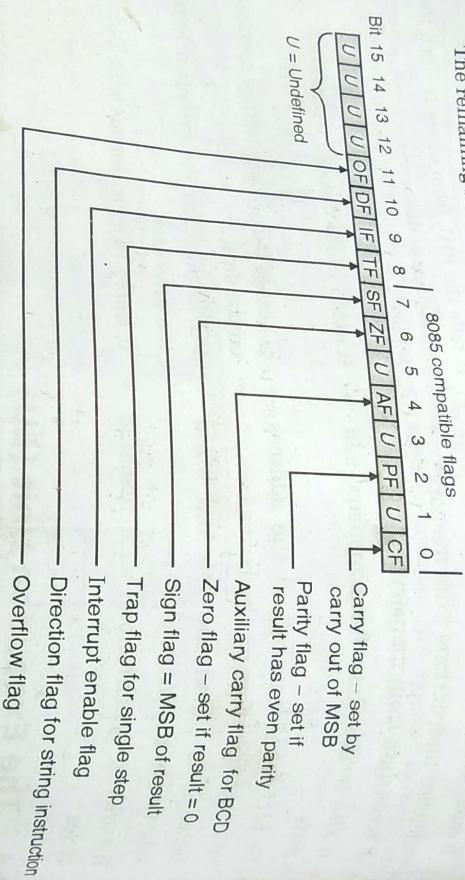

Fig. 11.4.1 : 8086 flag register format
Q. As shown in Fig. 11.4.1, the execution unit (EU) has four general purpose 16-bit registers.